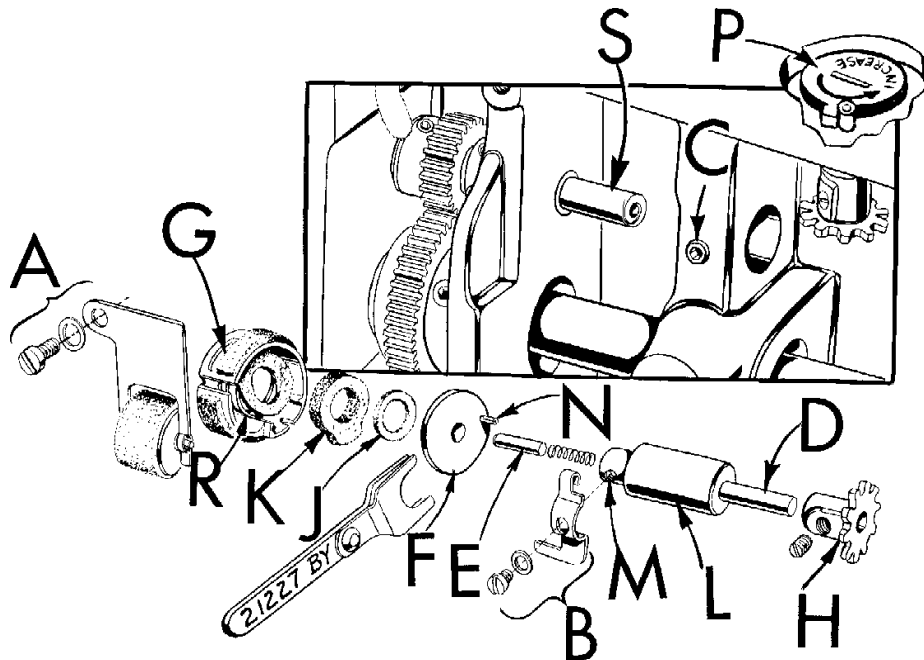

Fig. 23
Hook oiling is accomplished by a high speed rotary pump on the end of the hook shaft. The quantity of oil supplied to the hook is regulated by the longer or shorter path the oil is required to travel through the metering felt of metering cup (G, Fig. 23). (Increase or decrease of oil supply is controlled by a dial (P, Fig. 23) with an arrow marked "INCREASE", found below the cloth plate.) The hook oil feed roller (A, Fig. 23) which rests against the metering cup felt serves not only to feed oil to the unit from the oil reservoir, but filters the oil as well.
1. Remove hook oil feed roller (A, Fig. 23).
2. Remove hook oil control finger (B).
3. Apply finger pressure to hook oil control shaft (D) to prevent loss pump disc pivot pin (E); using Allen wrench, loosen set screw (C). Move assembly slowly to right, being careful not to drop pivot pin located on the end of the hook oil control shaft. When pivot pin is clear of pump disc (F), disc is free to fall.
4. Remove metering cup (G) along with oil supply felt (K) and air seal felt (J).
5. Remove cop (H) from hook oil control shaft.